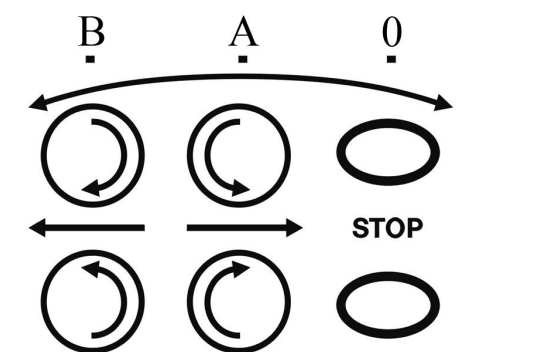

Figure 8 Direction to the operation bow
- **AT DANGER: PUT THE OPERATION BOW IN NEUTRAL (See Figure 8).**
The operation bow must be in the stop position (0) during start (see Figure 8). After start you release the reset handle and pull the operation bow into the middle position (A) and the rollers will turn. The material is now pulled into the machine.